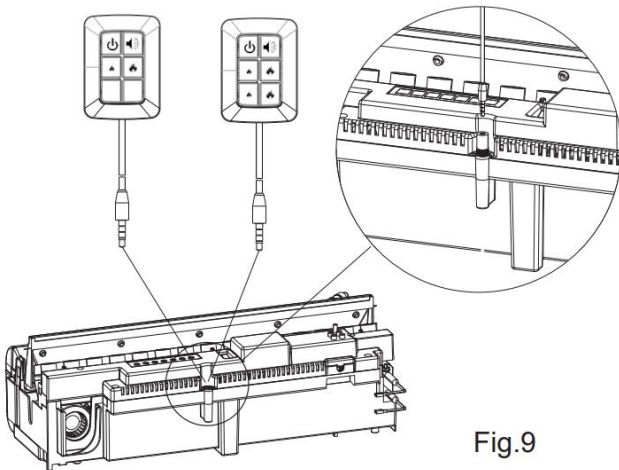

Fig.9
2. Connect the Bluetooth receiver to this product (Fig 20A, 21A). This will be the only Bluetooth receiver in the installation and will control the rest of the products in the installation. In an installation of both Mistero 500R-RGB & Mistero 1000R-RGB products, the Bluetooth receiver (Fig 9) should be connected to the 'master' product.